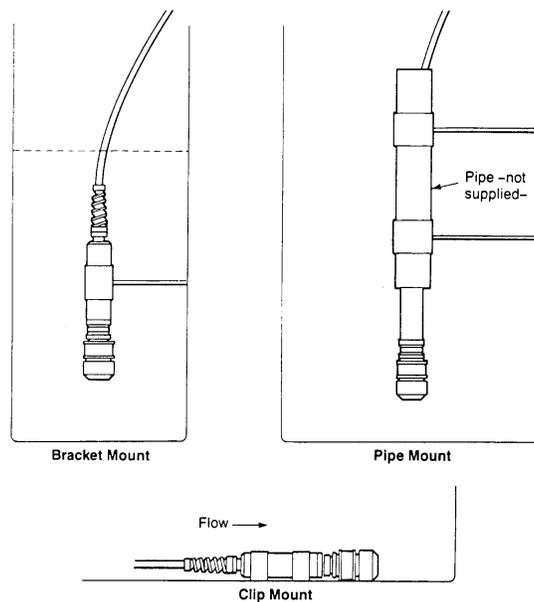

Figure 3. Typical Mountings
The SDT-II can be installed with several different mountings. Some typical mountings are shown in Figure 3:
2. Refer to Figure 3. Select appropriate mounting.
1. For bracket mounting, clip the SDT-II into place as shown in Figure 3.